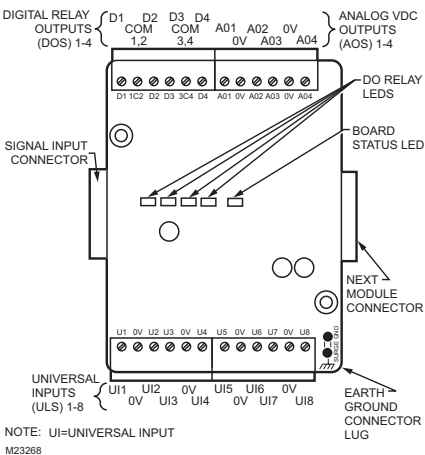

Fig. 3. WEB-IO-16 Wiring terminal locations.
The WEB-IO-16 module provides 8 universal inputs supporting analog inputs (temperature, resistance, voltage and current) and digital inputs (contact closure, pulse count) and 8 outputs: 4 relay (24 Vac/cd, 0.5A max.) outputs and 4 analog outputs (0-10 Vdc). Wiring terminal positions are shown in Fig. 3, along with LED locations.
See Fig. 3 to locate connectors and other components on the controller.
An LED status indicator for each relay (D1-D4) is located on the board (See Fig. 3), and also visible through the cover. Under normal operation, each digital status LED indicates activity as follows:
**NOTE:** Any time a powered WEB-IO module's status LED is not lit, all outputs are in "failsafe" state (all relay outputs **Off**, and all AOs are at a 0-volt level). See Fig. 3 for location of the WEB-IO-16 status LED.
Step 1	Apply power to the WEB-201 controller (e.g., WEB-NPB-PWR or NPB-WPM-US). The WEB-IO-16 board status LED will initially be Off (Fig 3). Allow the controller sufficient time to boot (at least 2 minutes).